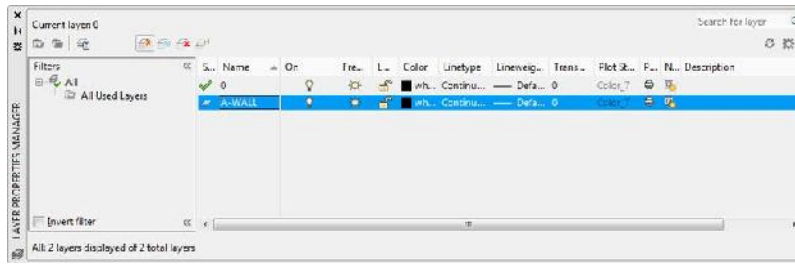

FIGURE 6.7: The Layer Properties Manager with a new layer named A-WALL
3. Enter A-WALL. Layer1 changes to A-WALL. The row for the A-WALL layer should still be highlighted (see Figure 6.7).
Now is a good time to look at what it means for a layer to be *current*. Notice the green check mark above the Layer List box in the Layer Properties Manager shown earlier in Figure 6.7. The same green check mark appears in the Status column in the layer 0 row. The name of the current layer, in this case, 0, appears in the upper-left corner of the dialog box.